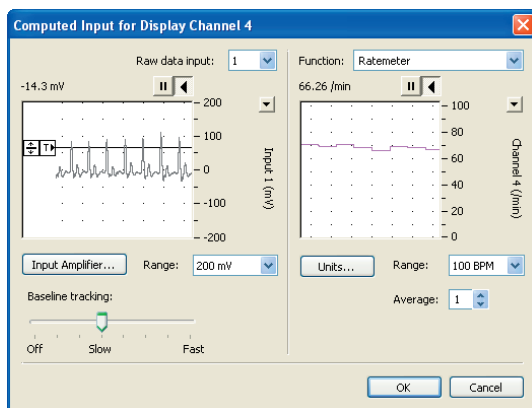

Figure 26. Cycle Variables dialog box..
3. Write a sample expression and close the Arithmetic dialog box. Chart then calculates the expression for every data point collected and displays the results on Channel 2. In Figure 26, Channel 1 was simply multiplied by -1, i.e. Channel 1 was inverted.
3. Select Channel 1 from the Raw Data Input drop down menu. The periodic pulse signal should be observed in the left hand panel of the Computed Input dialog box (Figure 26).